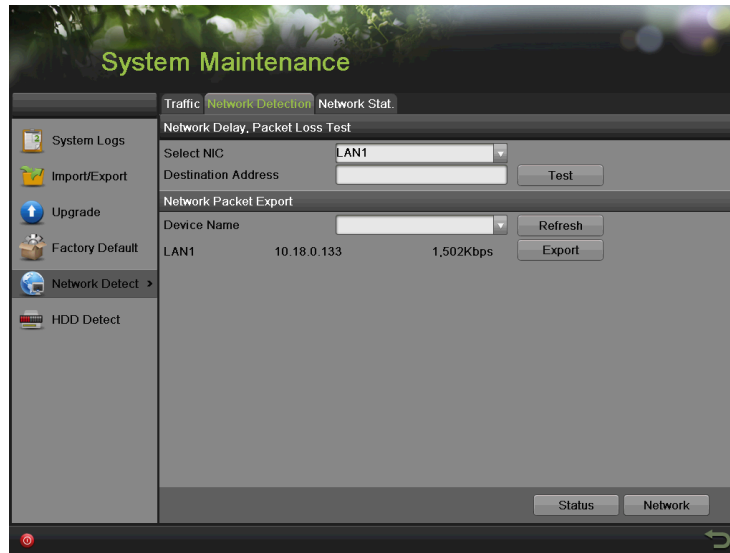

Figure 174 Network Detection
2. Select the Network Detection tab to enter the Network Detection menu, as shown in Figure 174.